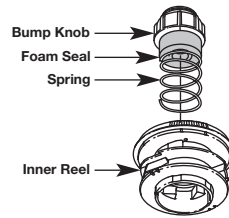

Fig. 20
1. Turn the bump knob counterclockwise and remove the bump knob, spring and foam seal (Fig. 20 & 22).
2. Pull out the bump knob, spring and foam seal (Fig. 20).
7. Place the bump knob, spring and foam seal onto the inner reel (Fig. 20).